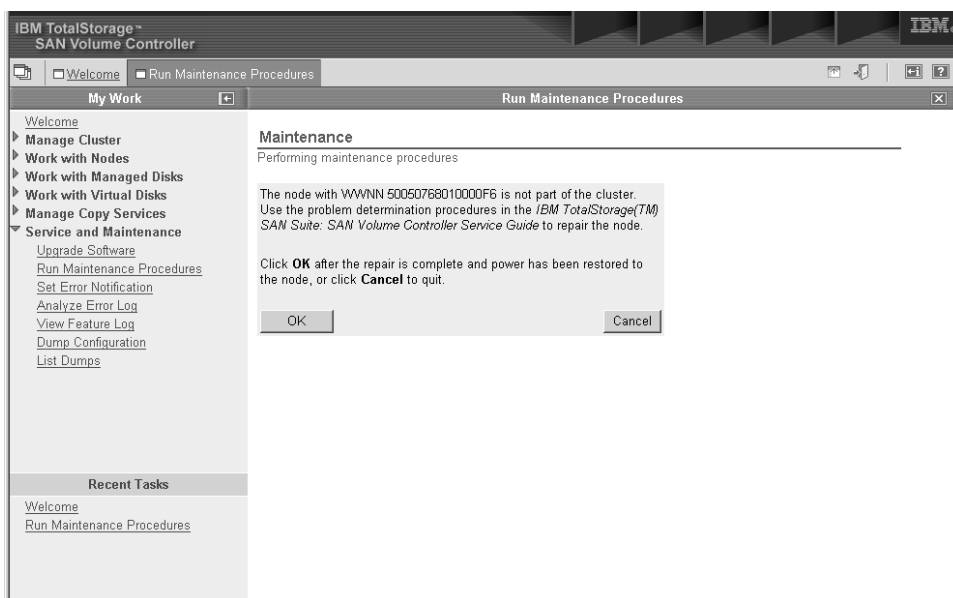

Figure 52. Example of what is displayed for cluster action
4. Click OK to display what is shown in Figure 52.